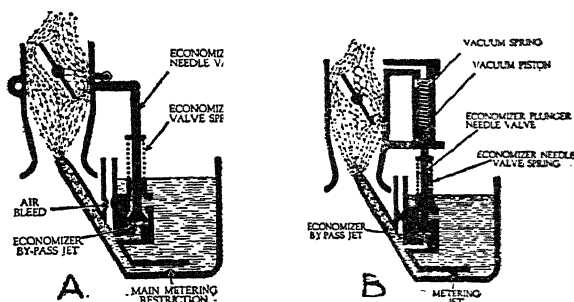

Fig. 55. Gasoline Valve Economizer
*Economizer Reducer.* The amount of economizer action is controlled by the amount of air which is admitted to the jet when the economizer needle is raised and this may be regulated by the economizer reducer. See Fig. 55 for an arrangement of this. In finding this size, the gasoline adjustment is set to give the best power on a hill that will hold the car down to a speed of 20 to 25 miles per hour. The size should then be selected to give a mixture which is so lean at part throttle opening that the gasoline needle adjustment—as found on the hill—cannot be cut down one notch without causing the motor to fall away in speed for a given partial throttle opening. In all cases the size of the economizer reducer should not exceed the size of the main discharge jet opening.
On the Model "U" Stromberg carburetors, the desired enrichment at half- to full-open throttle position is obtained by means of a gasoline valve, Fig. 55. With this type, the main metering jet size is selected for best economy at closed throttle; the economizer by-pass jet is then selected of such size as will give full power and the best operation at full-open throttle. On some of the models, the economizer needle valve is opened mechanically by the action of the same arm that operates the acceleration pump, as shown at *A* in Fig. 55. On certain other models, the economizer needle valve is operated according to the intake manifold vacuum, which in turn depends upon the engine load. At idle and light loads, the vacuum economizer piston is sucked up against a spring. When the throttle is opened or a heavier load placed on the engine, the manifold vacuum drops and the spring pushes the piston down to open the
*Economizer Action.* In the Model "U" carburetors, economizer action is secured by a submerged gasoline valve, operated by vacuum from the pump arm as the throttle is opened wide. See Fig. 55. Its fuel delivery or amount of economizer action is determined by the economizer restriction or by-pass jet, which has a "cup" form of metering orifice pressed in its tip. In setting these carburetors, the high-speed metering jet or needle setting is selected to give most economical smooth running in the part throttle range. If this mixture ratio is then found to be too lean at wide-open throttle and full load, a by-pass jet is put in of the size necessary to give the added enrichment.